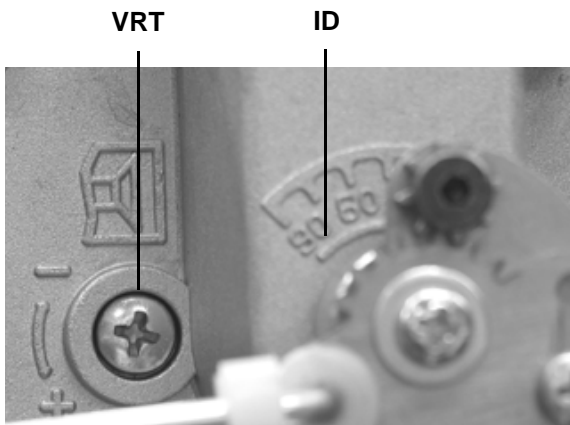
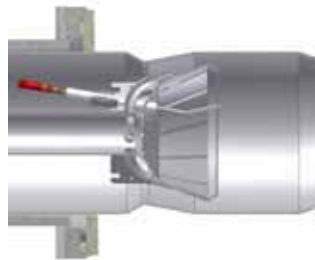

Fig. 11
Fig. 12 - Head in "fully-ahead position"
- 8 The burner is factory set with the combustion head at the position that refers to the "MAX" output. The maximum output setting refers to the "fully-ahead" position of the combustion head, as far as standard models (Fig. 12), and to "fully-backward" position for low NOx burners (Fig. 13). As for "fully-ahead" position, it means that the head is placed inside the boiler, "fully-backward" position means that the head is towards the operator. As far as the reduced output operation, progressively move the combustion head towards the "MIN" position, rotating clockwise the **VRT** screw (Fig. 11). The **ID** index shows how much the combustion head moved.